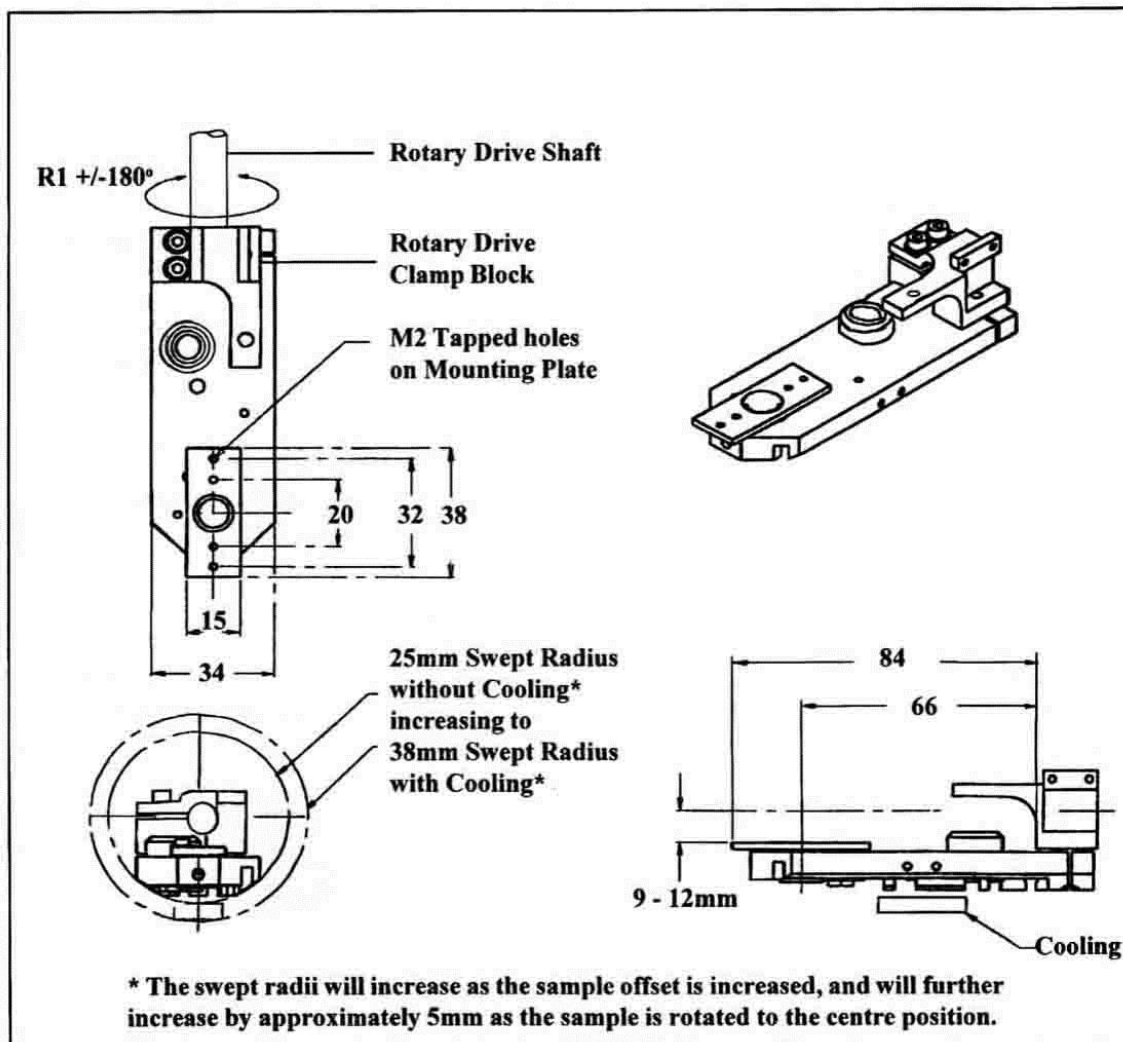

Figure 1 - The SH1 sample holder
The SH1 sample holder (see figure 1) provides a means of mounting equipment which may include sample heating, cooling and condition monitoring options. It is designed for attachment to rotary drives such as the RD1 to give primary rotation. The mounting plate itself can be preset to orientate the azimuthal angle of the sample, although this cannot be changed during use.
1) Release the M4 cap head bolt (located on the edge of the main body of the SH1 beneath the clamp block - see figure 1) retaining the clamping block pins to the SH1 body.
The range of adjustment is from 9 to 12mm (see figure 1).